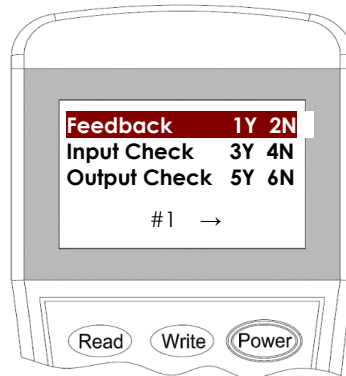

Figure 11: Page 1 for first address
4. The TX7220 takes two addresses. For the 1st address, input the "**1**" for Self-feedback mode or "**2**" for External-feedback mode then press "**Write**" to change the setting (Figure 11).